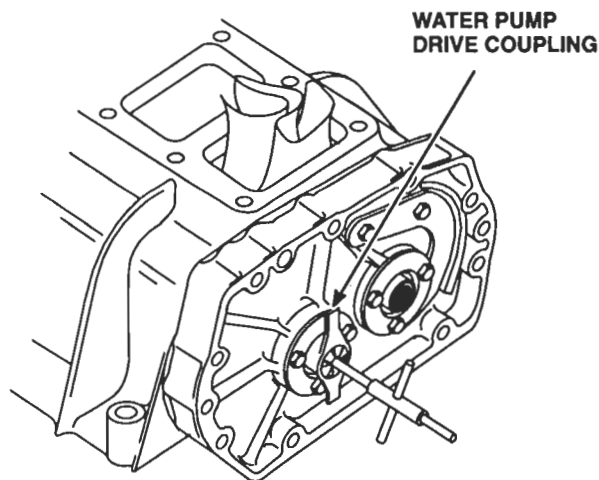

Figure 5. Removing Water Pump Drive Coupling Bolt from Blower Rotor Shafts
2. Place a clean folded cloth between the rotors to prevent the rotors from turning. Then remove the bolt securing the water pump drive coupling to the blower rotor shaft (Figure 5.)